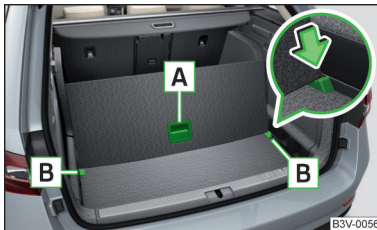

Fig. 138 Dividing the boot with variable loading floor
- To **divide**, lift the variable loading floor by the handle **A** and push in the rear edge of the variable loading floor in the grooves **B** in the direction of the arrow » Fig. 138.